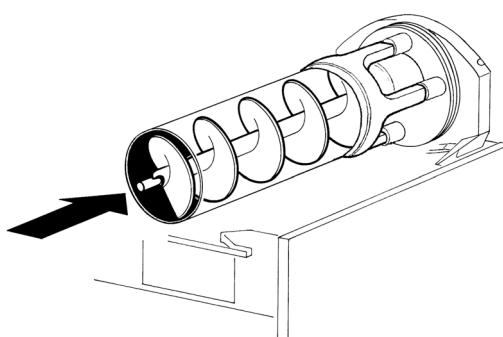

figure 13
- 5** Insert the auger into the evaporator taking care to accompany it to the end so as to prevent it from hitting against the rear wall (see figure 13).